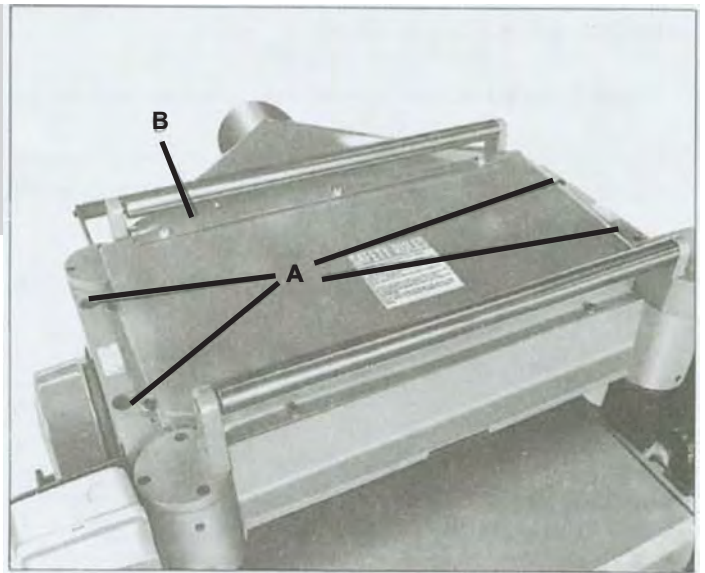

Fig 20
2. Remove the six screws (A), and remove the upper cover (B) as shown in Fig. 20.